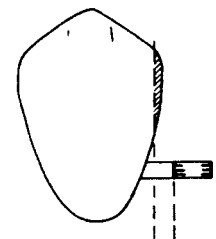

Fig. 6
2. Cut the female eyelet to length so that approximately 1 mm of the bar remains between the eyelet and the height of contour of the abutment pattern (Fig. 6). This will allow space for the retention sleeve when the prosthesis is fully seated.